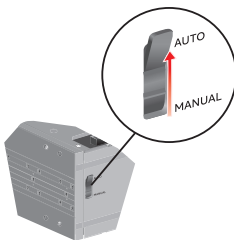

Figure 3.4 Toggle to AUTO position
- 2. Toggle the selector switch to the automatic (AUTO) position, as shown in Figure 3.4.